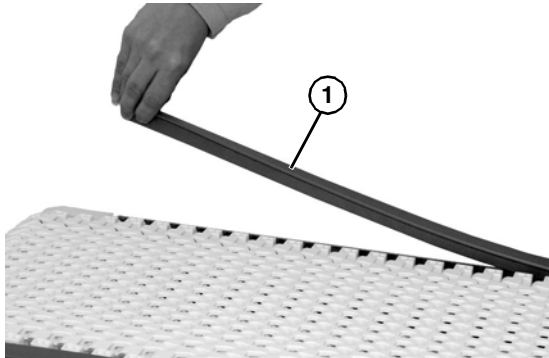

Figure 32
13. Install the top bar caps (**Figure 32, item 1**) on the conveyor frame with wide lip facing up to cover the belt tabs.